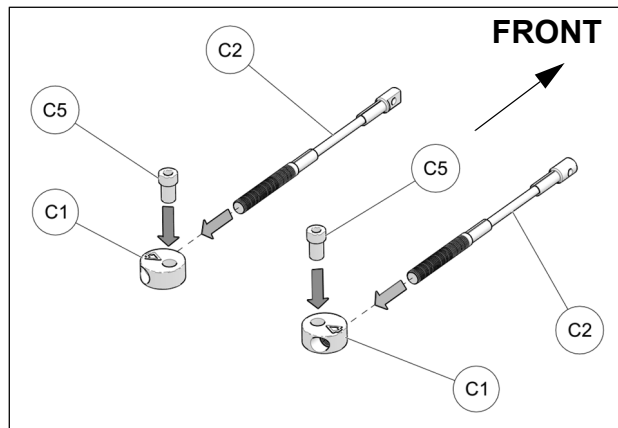

Fig. 23
10. Assemble steering limiter cables (C2), aluminum disks (C1) and step spacers (C5) together as shown on Fig. 23